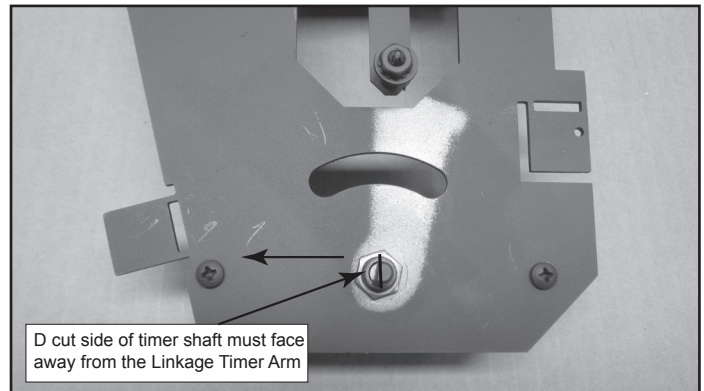

Figure 4.23 D Cut on Shaft
- Install new timer using same two screws. It is very important that the D cut side of the timer shaft is facing the opposite side of the linkage timer arm. See Figure 4.23.